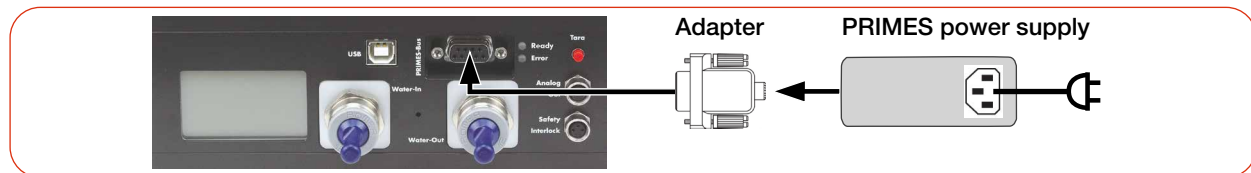

Fig. 7.3: Power supply via PRIMES power supply, display of the measured values on the device
- ▶ Connect the PRIMES power supply with adapter according to Fig. 7.3 on page 30 an.